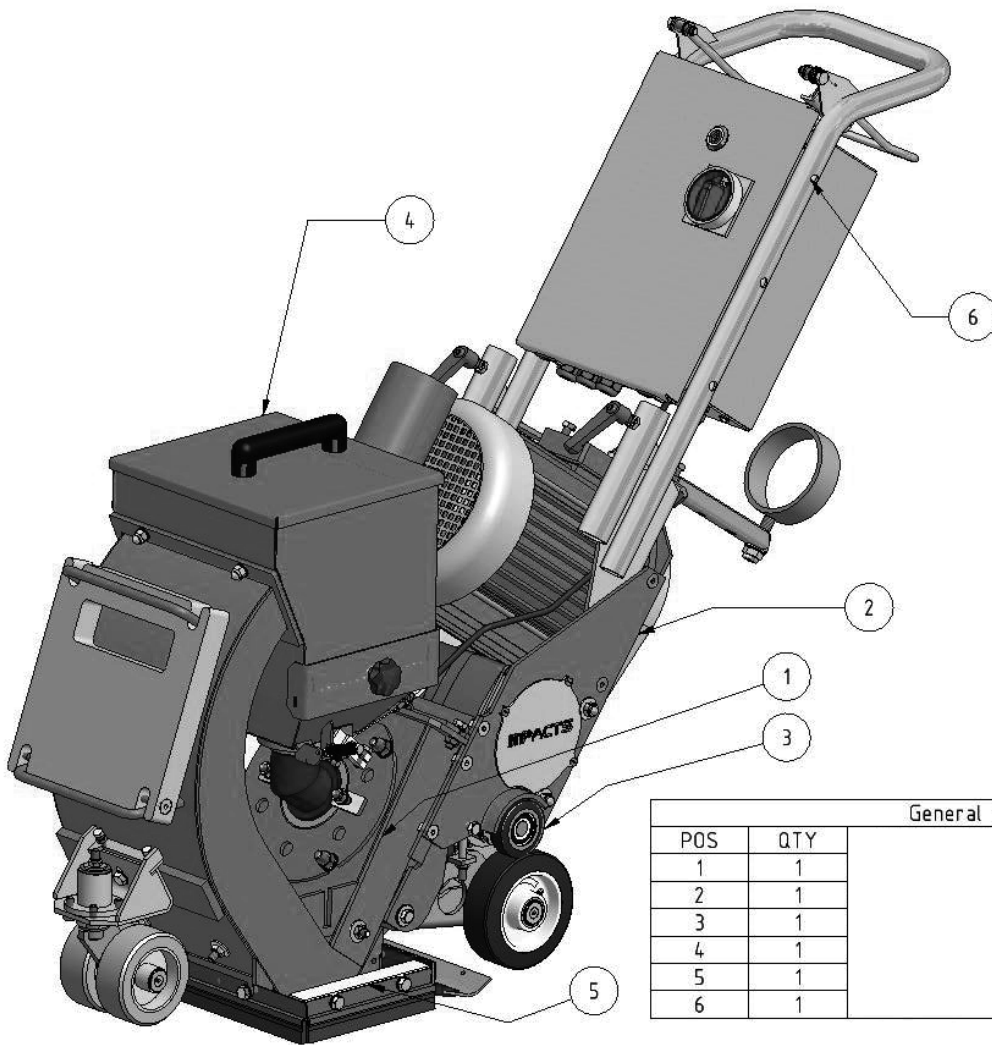

FIG. 8
For any work in the controller, the handle will need to be loosened (Figure 7). The fuses are located inside the control box (Figure 8). To check the fuse, and change if necessary, complete the following steps:
- Remove the fuse(s) (Figure 8).